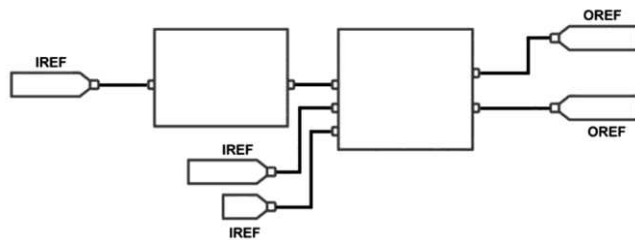

Figure 15-56 Function block diagram for question 6.
- 6-1. The IREFs shown in Figure 15-56 6-1._____